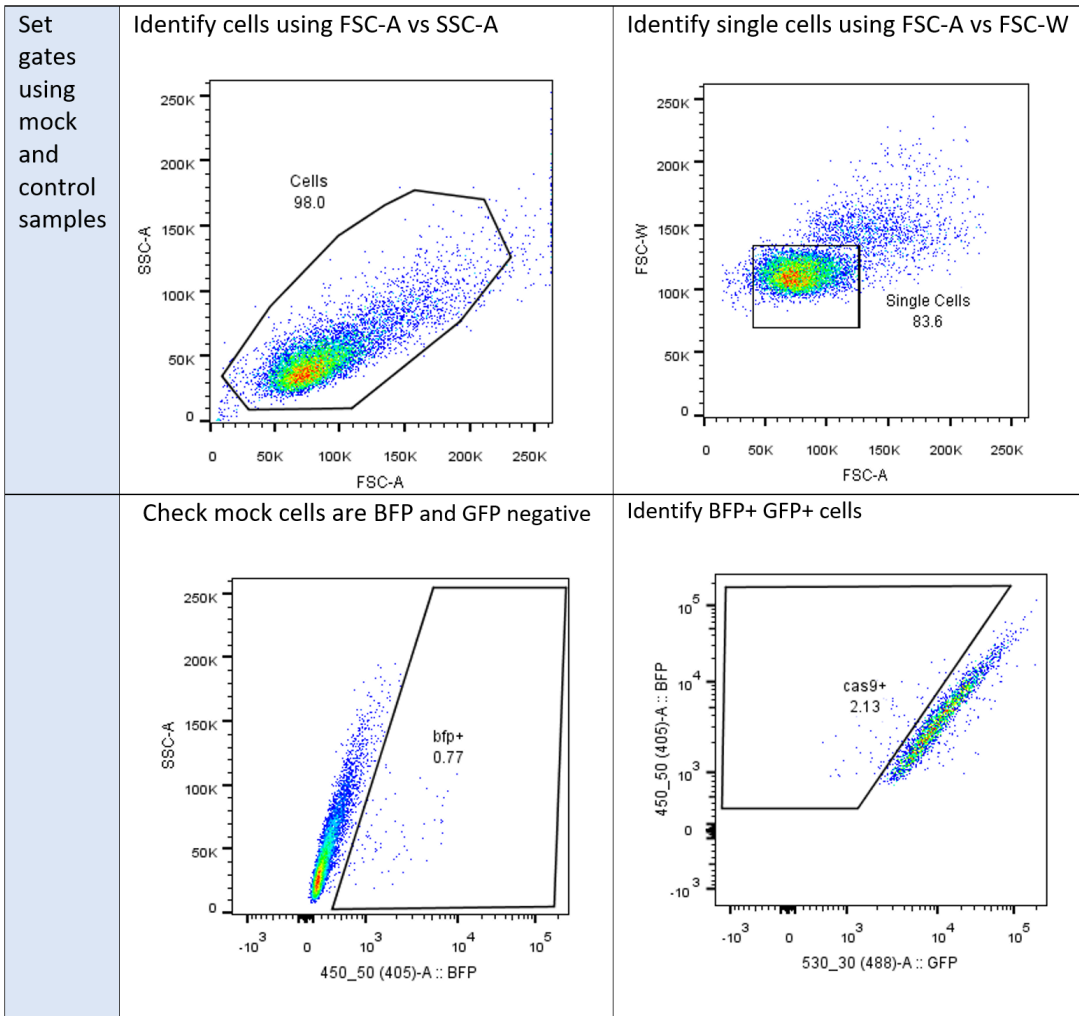

Figure 2. Setting up plots and gates for the mock sample.
- 12 Run the mock sample first and use this to separate debris (FSC-A vs SSC-A) and identify single cells (FSC-A vs FSC-W). Use the polygon gate to select for this cells (see Figure 2). If required, adjust FSC and SSC voltages to ensure the main population lies within the plot.
- 12.1 Check that the mock cells are negative for BFP and GFP using the filters: BFP 450/50 (405)-A and GFP 530/30 (488)-A and insert a polygon gate with the negative population positioned on the left side (Figure 2, bottom left panel). Run and record 10,000 events per sample.
- 16 Using the analysis software, start by analysing the mock sample. Firstly, identify single cells by drawing a gate around the main population in FSC-A vs SSC-A, as shown in Figure 2, top left panel.
- 16.1 Double-click inside the gate to open a new pane containing the selected cells. Identify single cells by drawing a gate around the population shown in Figure 2, top right panel.